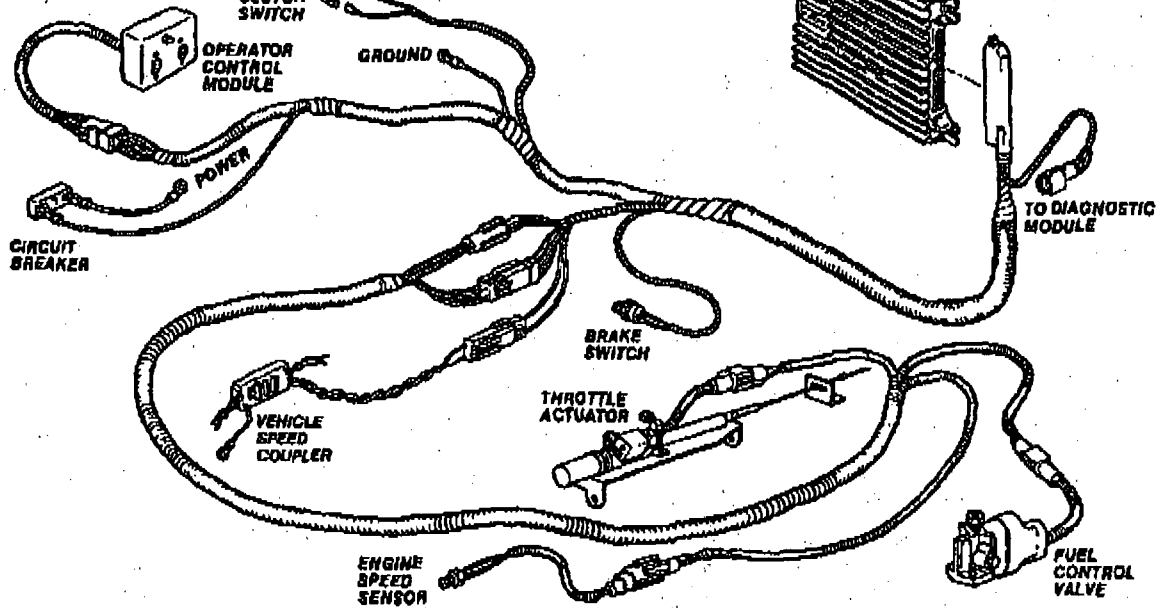
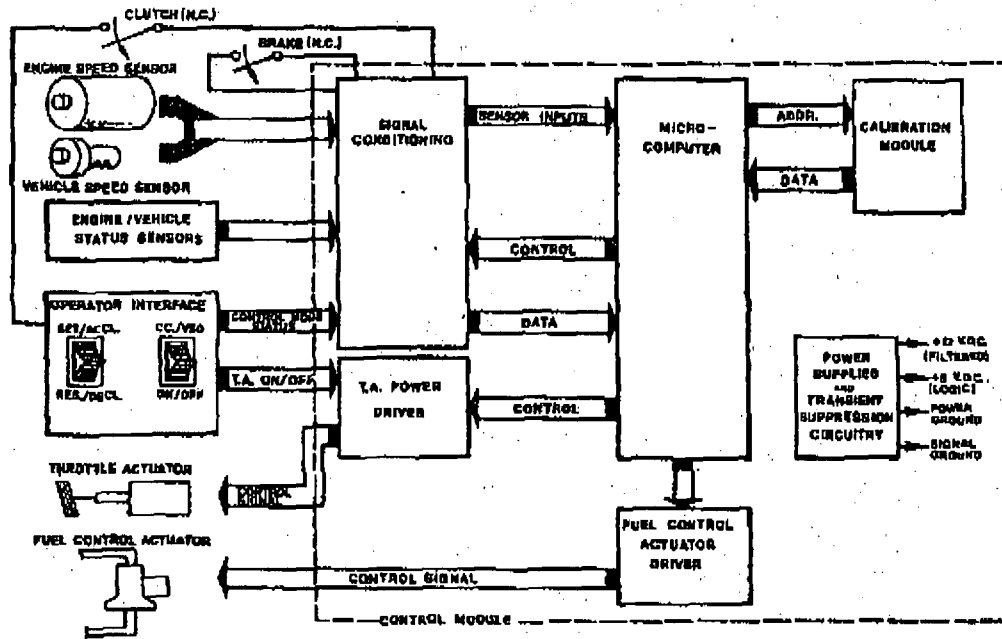

Fig. 2 - Electronic cruise and speed control components (TRW ETBCTM System)(3)
Fig. 3 - Electronic Control Module and System Schematic
that control truck road speed, engine speed and PTO speed have been introduced and are in production. In one example (Fig. 2), a solenoid valve controls fuel pressure to the injectors for accurate speed control. A vehicle speed sensor and an engine speed sensor transmit speed data to the electronic control unit (Fig. 3) (3). This unit controls, with extreme accuracy, functions such as: cruise control, variable engine speed governing, torque limiting, and road speed governing.